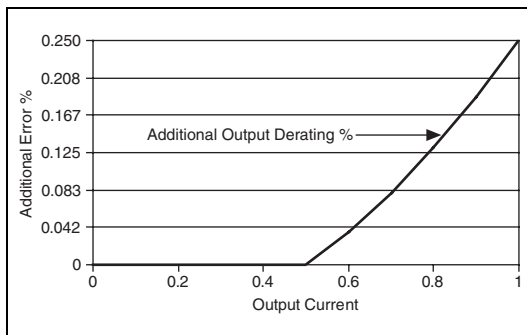

Figure 1. Accuracy Derating versus Load Current
* Calibrated at half of voltage range on channel. Applies to current limits greater than 2% of range. Applies to output current up to 500 mA. For output current greater than 500 mA, refer to the derating information in Figure 1.
* Using the niDCPower **Samples to Average** property/attribute set to 300. Applies to output current up to 500 mA. For output current greater than 500 mA, refer to the derating information in Figure 1.